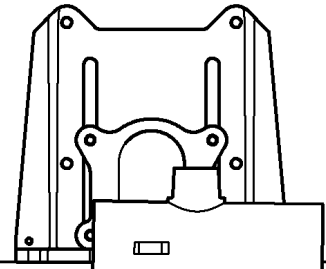

Figure 5d
- For fitting in the highest position, see **Figure 5d**.